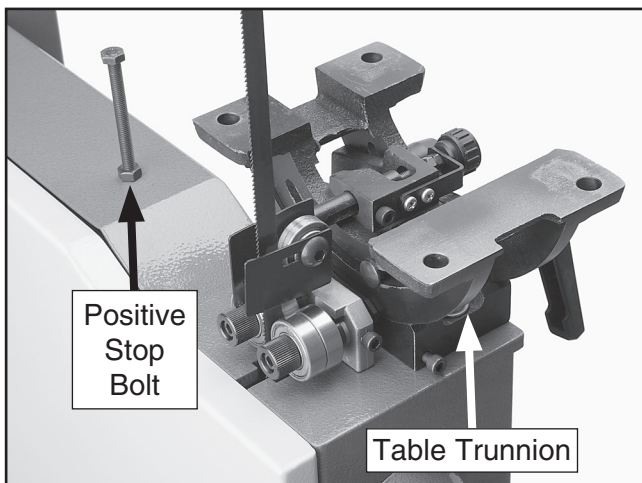

Figure 9. Positive stop bolt installed.
2. Thread the M8-1.25 x 100 hex bolt (otherwise known as the "Positive Stop Bolt") into the casting near the trunnion base, as shown in **Figure 9**.